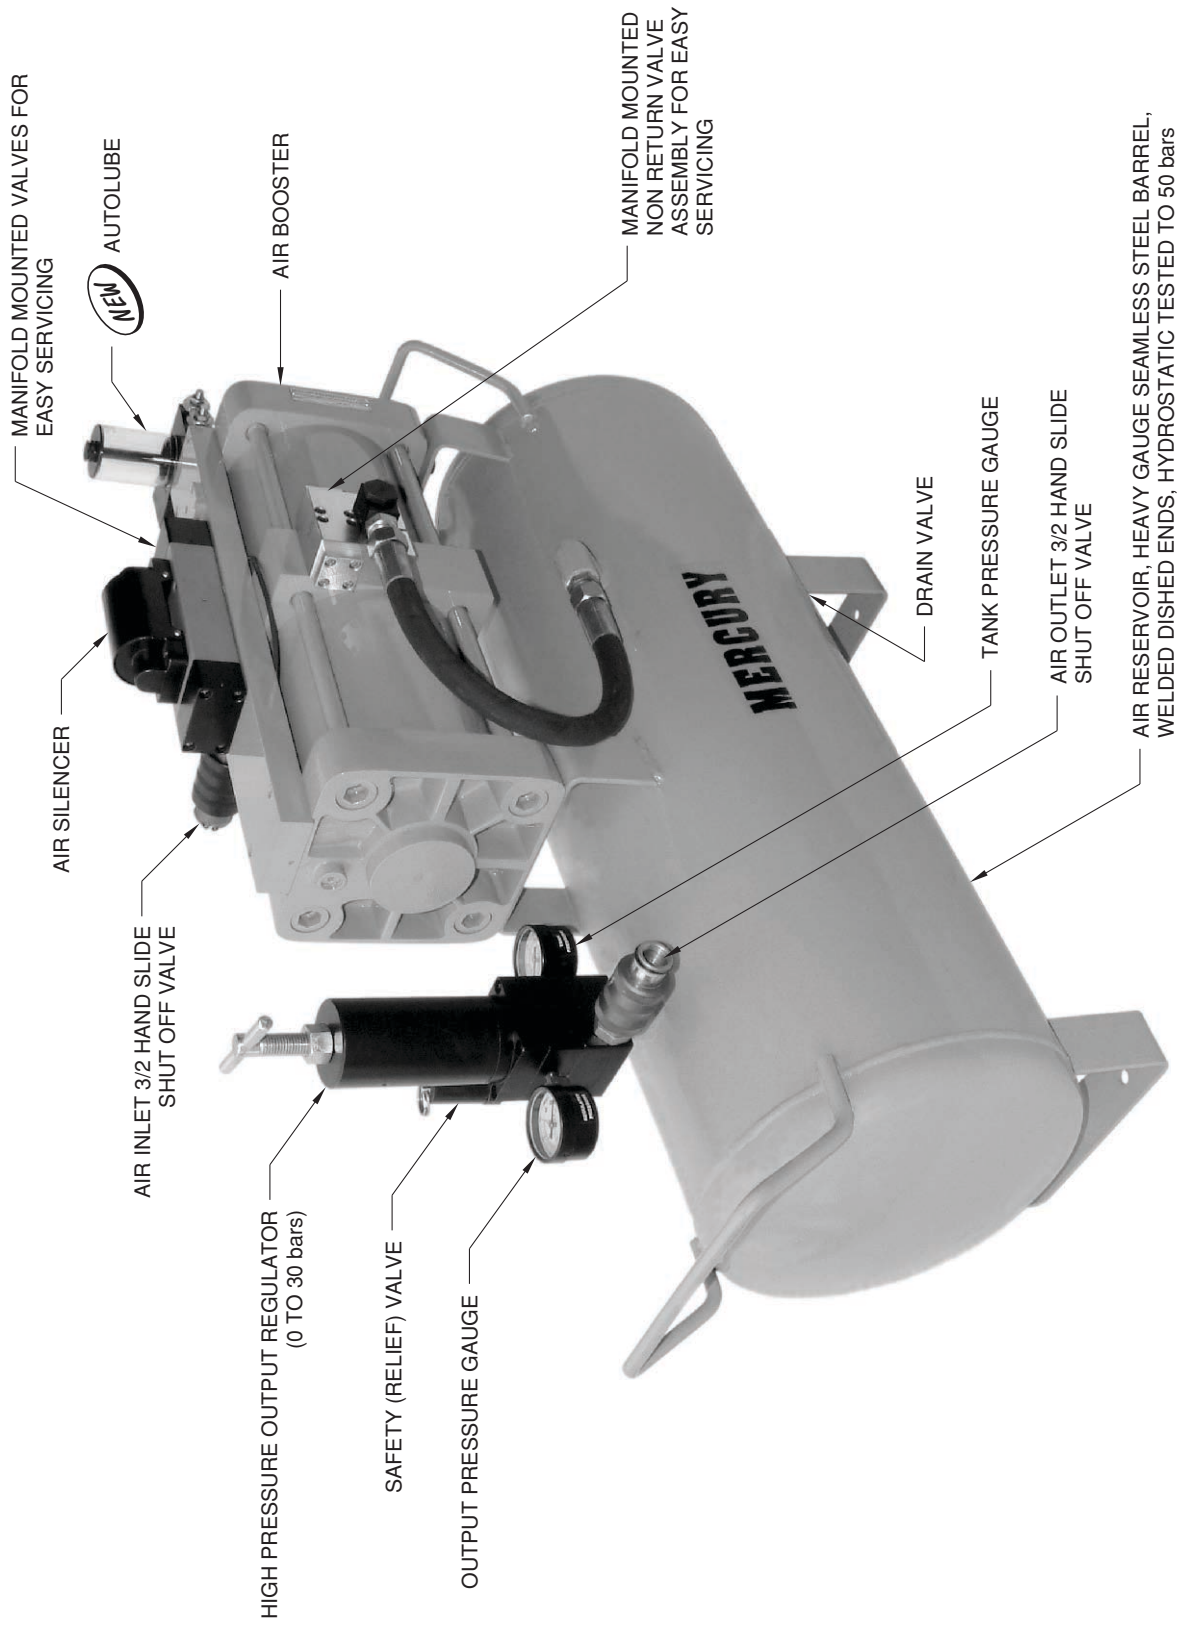

FIG. 1
4.1 The general layout of components of the air booster is given in **Fig. 1**.